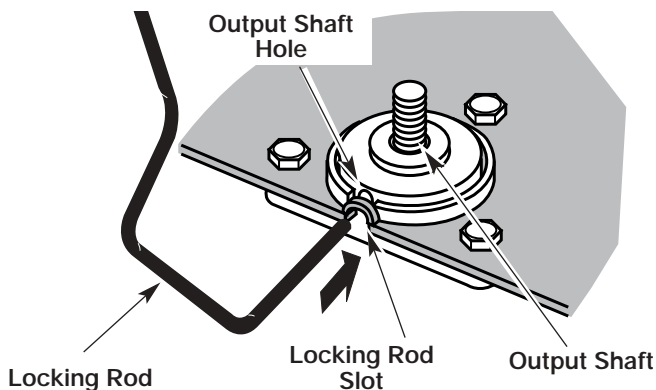

Fig. 29
1. Line up the hole in output shaft with the locking rod slot. Insert the locking rod through the slot into the output shaft hole (Fig. 29).